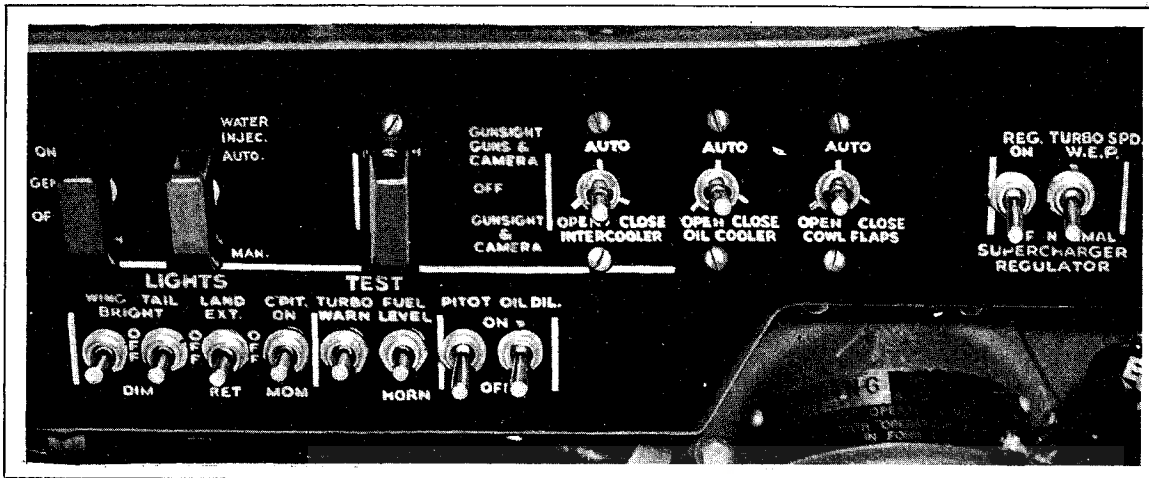
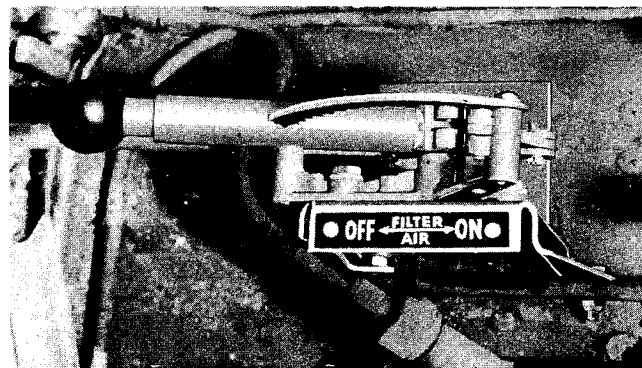
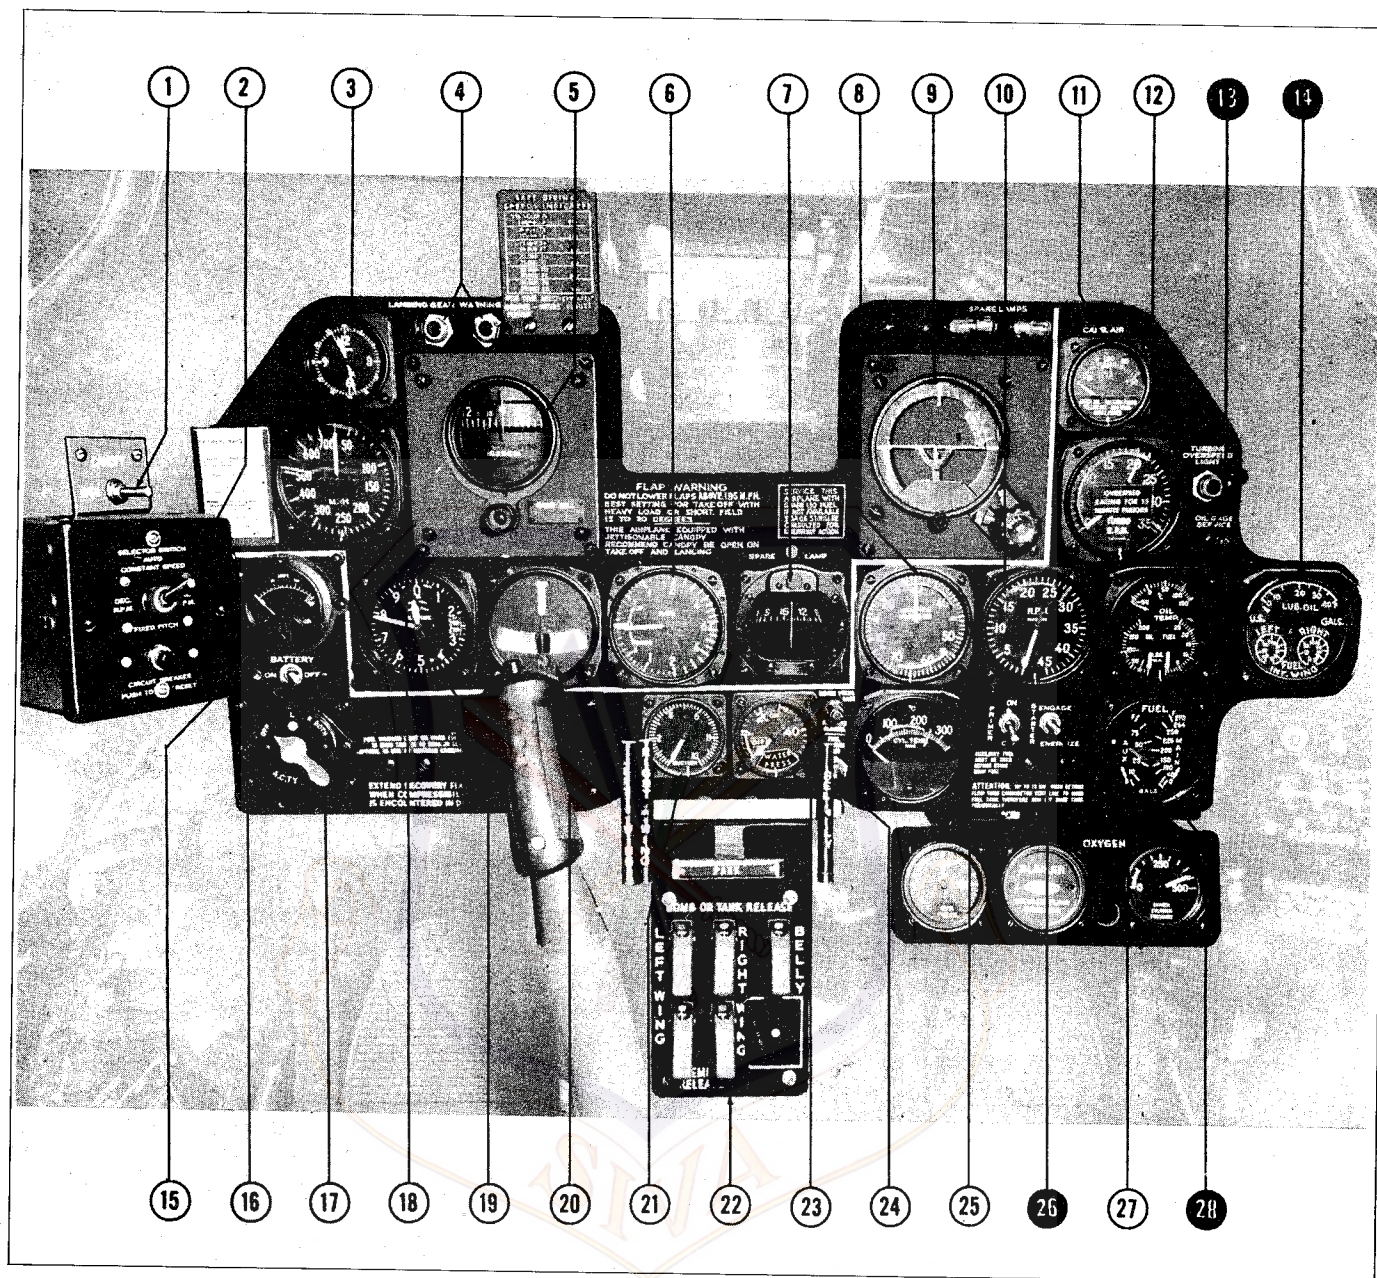
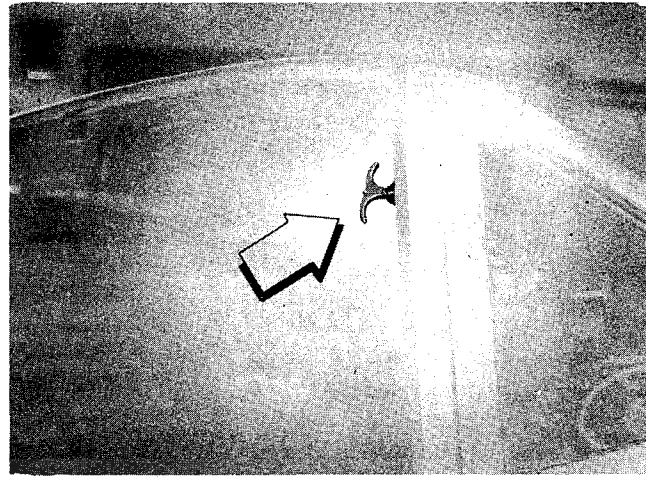

Figure 8—
**Figure 11—Induction System**
Figure 23—Instrument Panel
Figure 24—Canopy Jettison Control
g. INDUCTION SYSTEM.—A General Electric, type "CH-5" turbosupercharger (figure 11) is installed in the lower section of the fuselage aft of the cockpit. Engine exhaust gases are directed to the turbine wheel of the supercharger through exhaust pipes on each
b. WATER INJECTION SYSTEM.—The water injection system permits operation without detonation at War Emergency Power of 72 in. Hg. manifold pressure. The system consists of a 30 US (25 Imperial)-gallon supply tank, an engine-driven pump, a water regulator, a derichment valve assembly, and an automatic turbo governor overspeed switch. An automatic reset jack is built into the system to retard the throttle setting should water pressure fail—or the supply run out. A water pressure gage (23, figure 23) is mounted on the instrument panel.
i. ELECTRICAL SYSTEM.—The electrical system is a 24-volt, d-c, single wire grounded type, energized primarily from a 100-amp generator. A storage battery is mounted on the right side of the firewall. An ammeter (15, figure 23) is located on the instrument panel to indicate the charging current. A plug in the right forward engine cowl, reached through an access door, permits the attachment of an external source of power for flight line service.
inter-cooler doors. (See 5, figure 11.) An automatic mechanism, sensitive to carburetor air temperature, controls an electric motor which automatically opens and closes the intercooler doors. An override switch (figure 8) mounted on the left wall of the cockpit provides for manual operation of the intercooler doors in the event of failure of the automatic mechanism. This switch has three positions: "AUTO," "OPEN," and "CLOSE." A carburetor air temperature gage (11, figure 23) is installed on the instrument panel. An air filter control (figure 12) is located to the left of the pilot's seat, on the cockpit floor. It has two positions: "ON" and "OFF."
*i.* LANDING GEAR CONTROL. — The landing gear is retracted and extended by use of the control (figure 13) to the left of the pilot. By depressing the button on the lever knob, the control may be moved to "UP," "N," or "DOWN." A spring loaded safety latch (figure 13) is provided to prevent inadvertent movement from the "DOWN"-position. In changing the position of the gear, it is necessary, except in emergencies, to allow gear to complete its cycle before lever position is changed again. If the engine-driven pump fails, the landing gear may be operated by use of the hand pump (9, figure 14) at the left of the cockpit seat. "N"-position is used in the event of failure of hydraulic system due to loss of fluid, only after the landing gear has been locked down by gravity and it is desired to lower the landing flaps. A warning lamp-and-horn system is provided to indicate whenever the gear is not locked up or down. A switch on the throttle also causes the warning light to glow if the gear is not locked down when the throttle is retarded to a point insufficient to maintain level flight. The warning system consists of red lamp, a green lamp (4, figure 23), and a horn, used in the following manner:
*o.* CANOPY CONTROL. — The canopy may be operated either electrically or manually. The electric switch (1, figure 23) is located above the propeller control switch box. Releasing the toggle will lock the canopy in any intermediate position. The canopy may be operated manually by pulling inward on the knobs at the leading edges, and sliding canopy to desired position. In emergencies, the canopy is jettisonable by pulling the "T"-type handle (figure 24) located on the right side of the forward bow.
(12) Check that airplane ignition switch (17, figure 23) is "OFF."
(13) Turn master battery switch (16, figure 23) "ON," and check that all circuit breakers are set. (See figures 9 and 20.)
(15) Check quantity of fuel aboard by fuel level gage on instrument panel. (See 14 and 28, figure 23).
Refer to three-point correction chart. Check the quantity of oil by oil quantity gage (14, figure 23) on instrument panel.